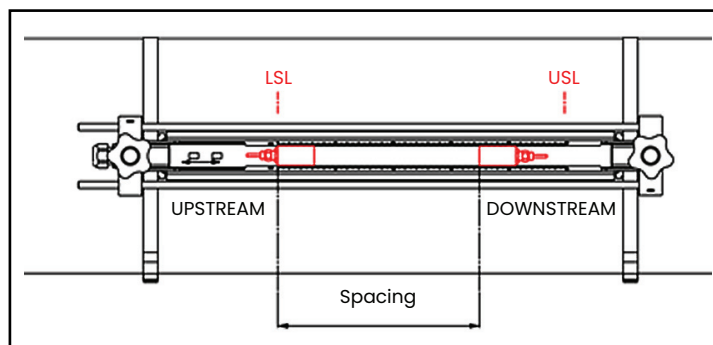

Figure 14: Installation for Two Traverses with One Fixture
5. See Figure 14 below for an example of a completed installation. In this drawing, LSL is the lower specified limit and USL is the upper specified limit for the installation.